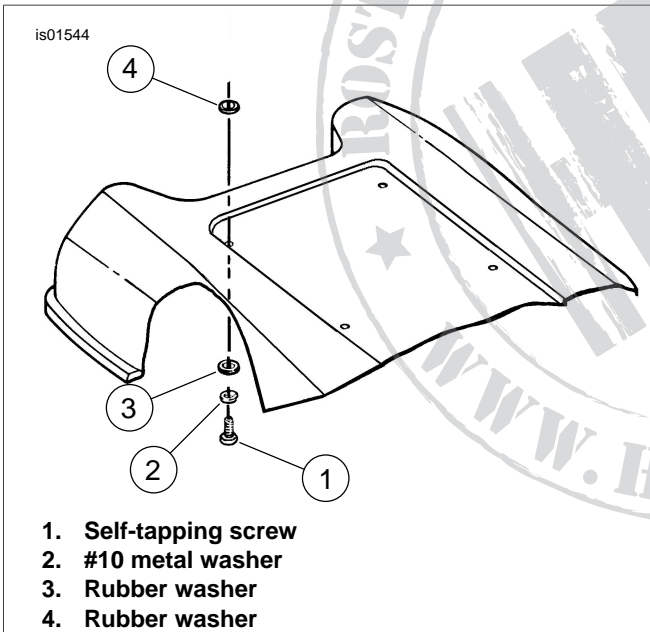

Figure 3. Lid Trim Kit Drill and Hardware Locations
8. See Figure 3. Obtain a rubber washer (3), #10 metal washer (2) and self-tapping mounting screw (1) from kit. Install the metal washer followed by the rubber washer onto the self-tapping screw.